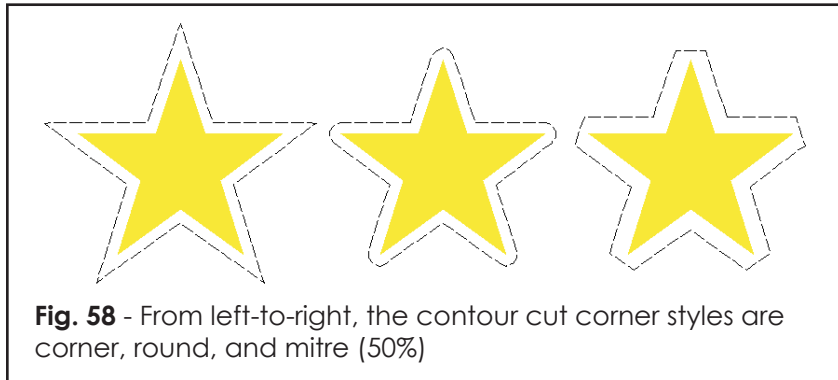

Fig. 58 - From left-to-right, the contour cut corner styles are corner, round, and mitre (50%)
4. Set the **Corner Style** according to how rounded or sharp the cut paths should be (Fig. 58).